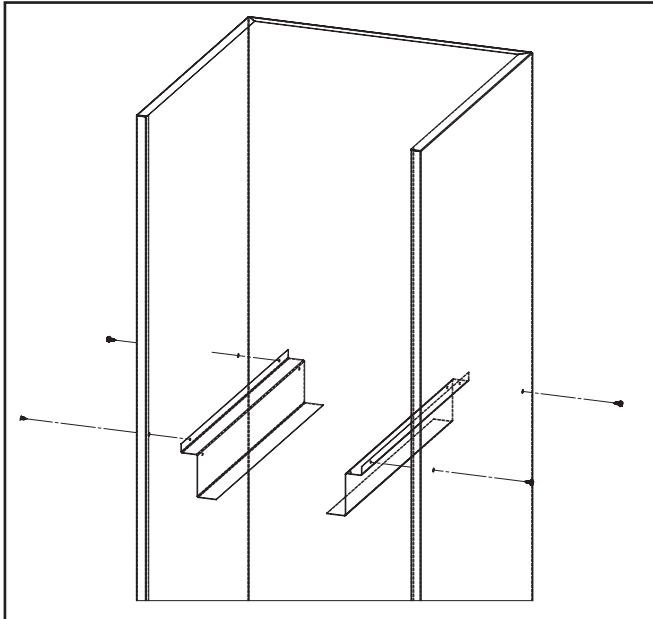

Figure 1.
1. Screw in the side brackets from outside the air handler. Use the dimples on cabinet exterior or the existing holes to properly position the side brackets (Figure 1).